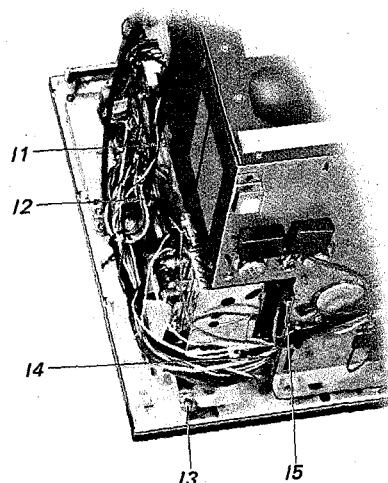

Fig. 2-11.
3. Remove the five screws labeled 11 ~ 15 in Fig. 2-11.